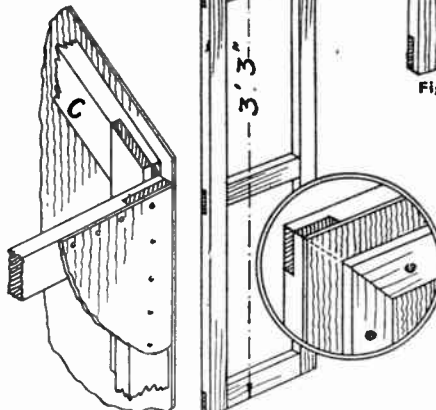

Fig. 7—Details for the doors
Two simple narrow frames for the doors are made up as Fig. 7, and covered with the felt or Ruberoid. As a strengthening medium, lengths of ordinary builders' sawn laths may be cut, mitred and nailed on as shown in the circled diagram in Fig. 7. The doors are hung to the upright rails (B) with ordinary butt hinges, brass if possible, and made to close neatly in the middle, a covering